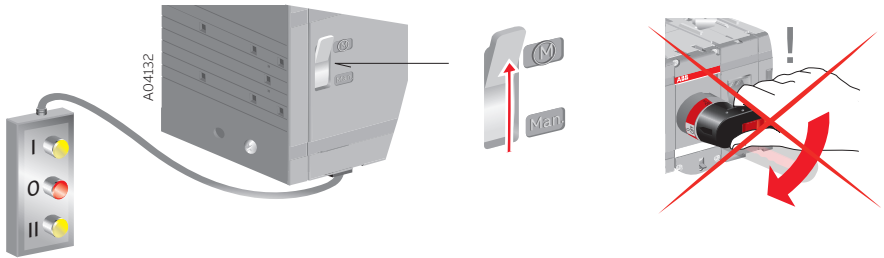

Figure 8.2 Motor/Manual selection switch in the Motor (M) position
- 2. Turn the Motor/Manual selection switch to the Motor (M) position, see Figure 8.2.